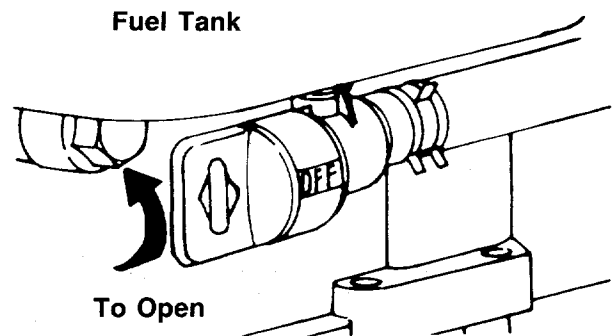

FIGURE 12.
2. Open fuel shut-off valve, located beneath the fuel tank. See figure 12.